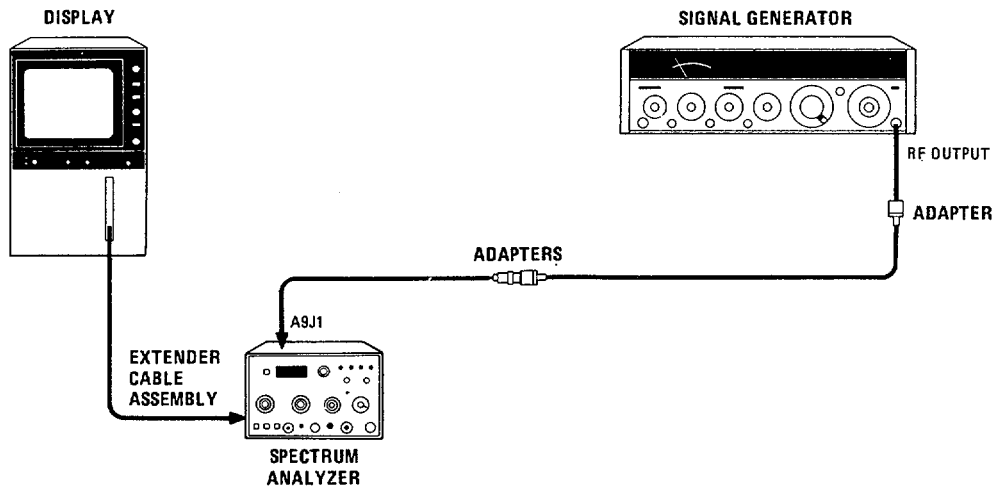

Figure 4-9. Resolution Bandwidth Accuracy Test Setup, 1 kHz to 30 kHz
- 13. Connect equipment as shown in Figure 4-9. Remove W7P1 from A10OJ2. Connect signal generator through adapters to W7P1.